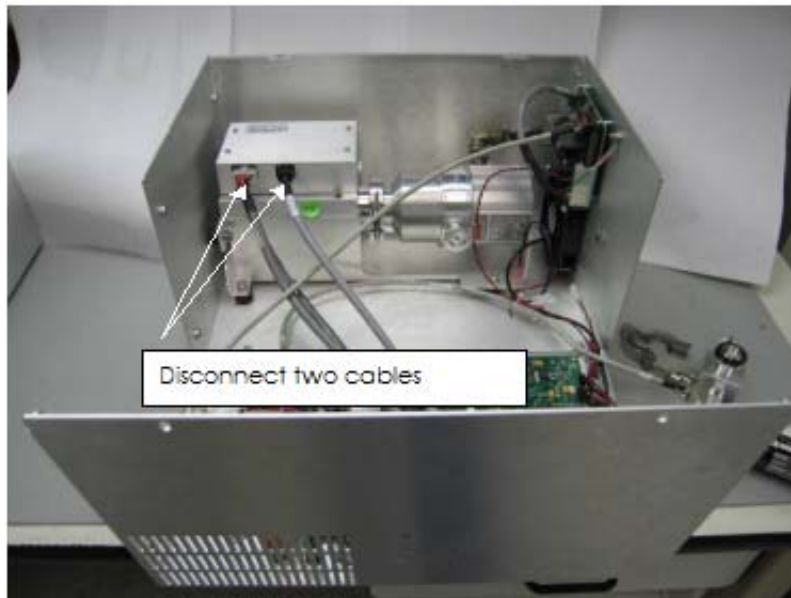

Figure B-49 Cables To Spectrometer
5. Disconnect both cables from the spectrometer (Figure B-49).